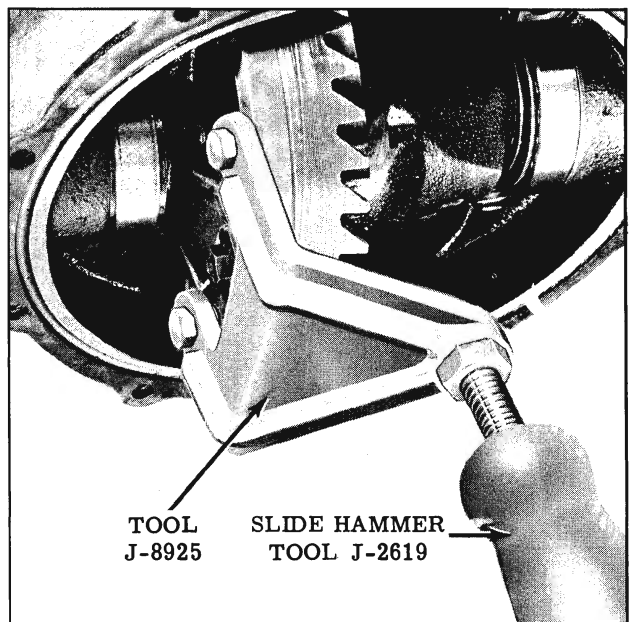

Fig. 6-108 Removing Case Assembly
6. Attach Tool J-8925 with Slide Hammer J-2619 to ring gear. (Fig. 6-108)